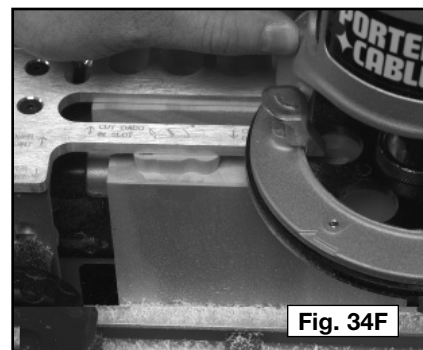

Fig. 34F
- Step 8** - Make a cut from left to right removing the remainder of the excess material (Fig. 34F).